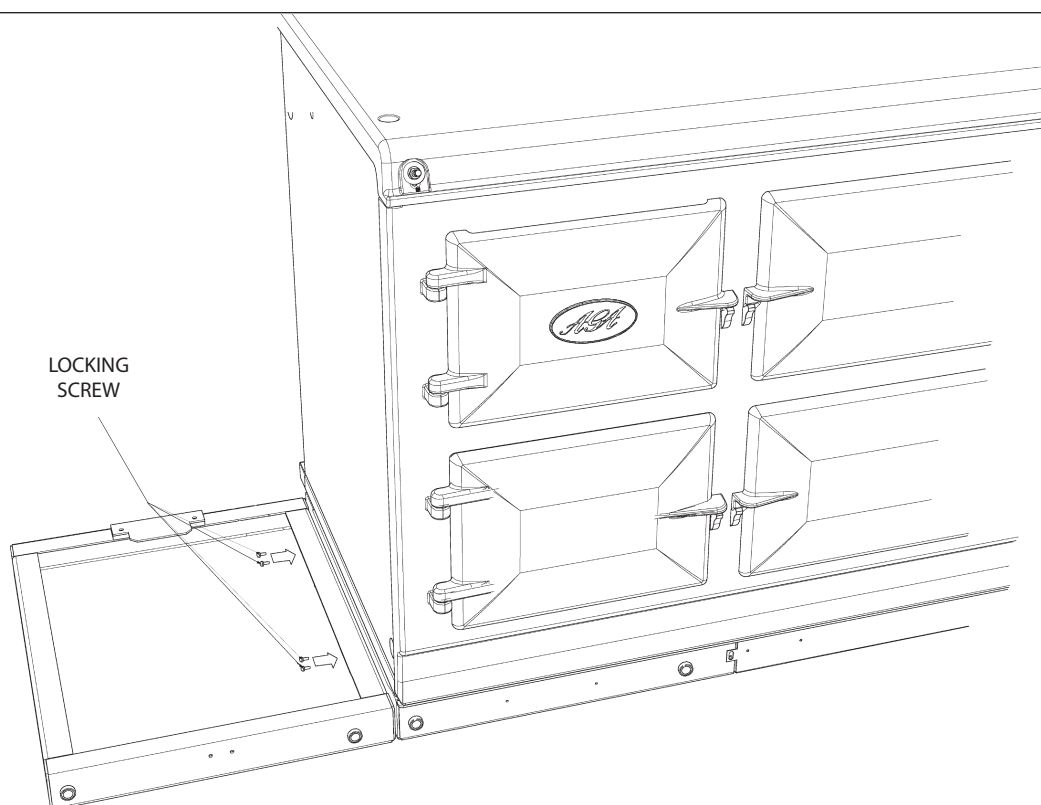

Fig. 12.4
3. Attach hotcupboard plinth to the AGA R7 plinth using M6 screws and washers provided (**Fig. 12.4**).